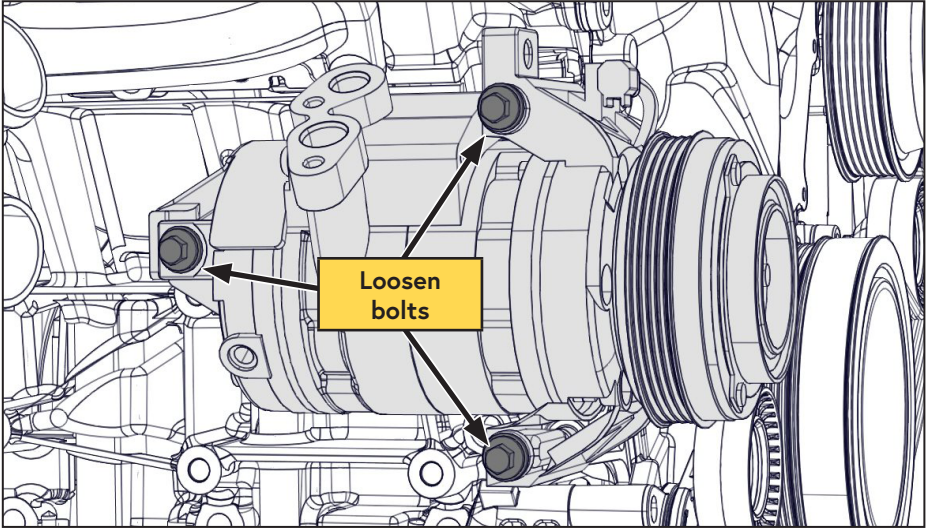

Figure 21 — A/C compressor bolts
- Loosen the 3 × M8 A/C compressor bolts until the threads are still engaged but only enough to support the A/C compressor (Figure 21).